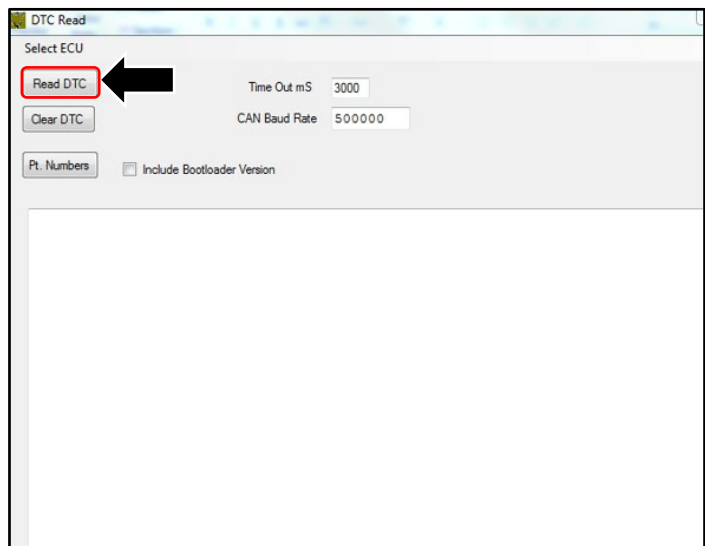

Figure 10
14. In the “DTC Read” window, click the ‘Read DTC’ button (refer to Figure 10).